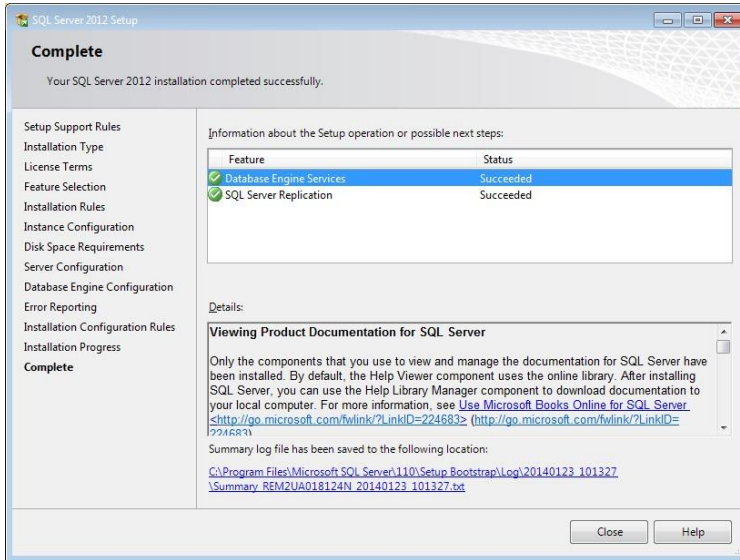

Figure 8. SQL Server 2013 Installation Complete
13. When the installation is complete you will see the image depicted in Figure 8. The new instance is now ready to use for hosting AutoCAD Plant 3D or AutoCAD P&ID projects.